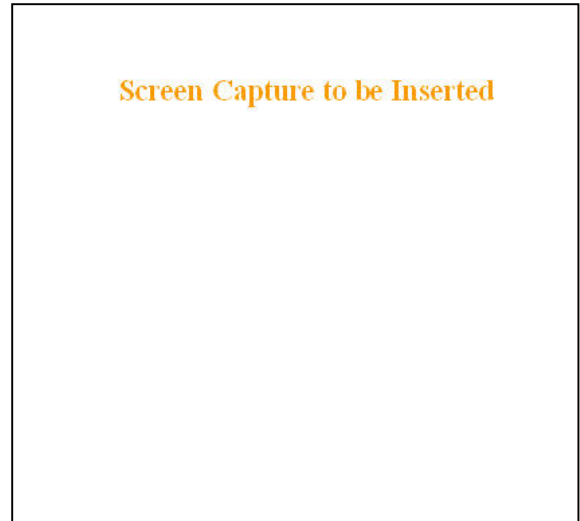

Figure 13 - Setup Wizard - Page One
2. On page one (Figure 13) of the Setup Wizard, read the on-screen instructions. Once the Operating mode is selected, click Apply Your Changes. Wait for the Progress bar activity to stop (*right side of the Status bar*). Click on Proceed to Next Step. *If no change is made to the Operating mode, click on Proceed to Next Step.*